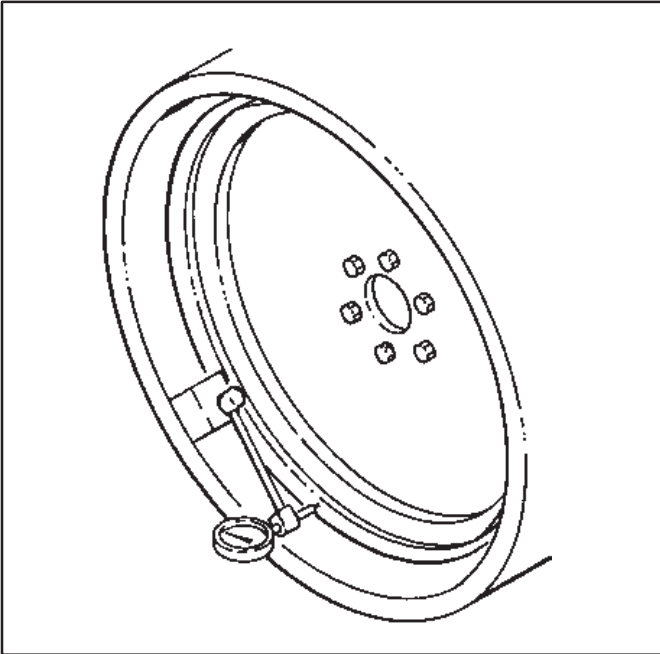

Figure B-4. Pilot Counterbore
5. With the dial indicator arm tip against the flywheel coupling gear pilot counter bore, Figure B-4, rotate the flywheel and check that the total indicator reading does not exceed .005 in.